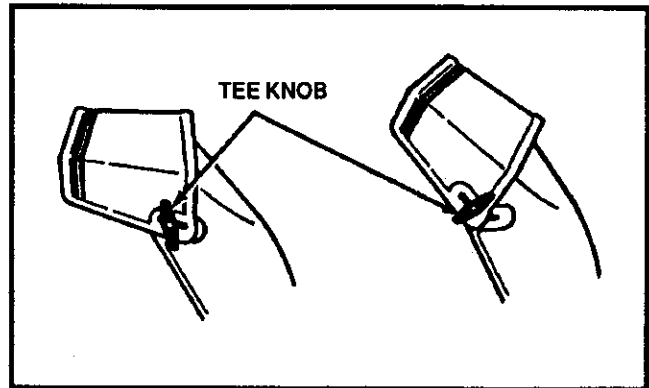

FIG. 2-OP
- Loosen the tee knob on the chute deflector and move the deflector to set the **distance**. Move the deflector (**UP**) for more distance, (**DOWN**) for less distance. Then tighten the tee knob (See FIG. 2-OP).